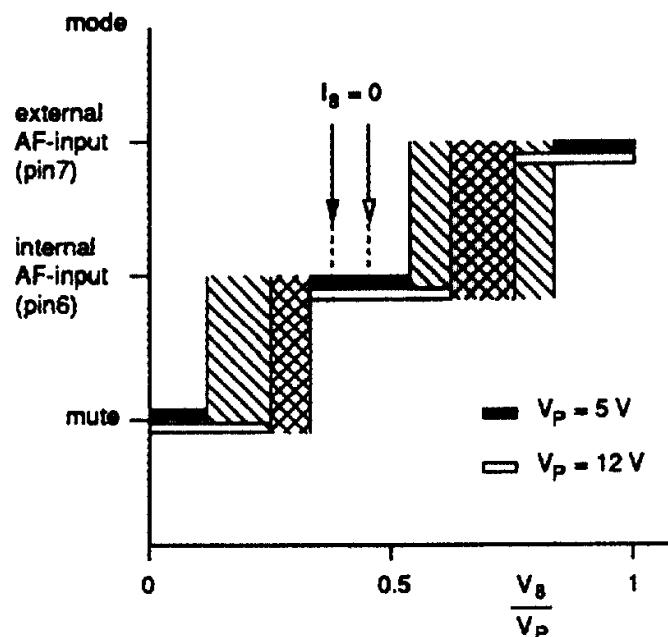

Fig.5 Source selector switching levels.
**Source selector control (see Fig.5)**